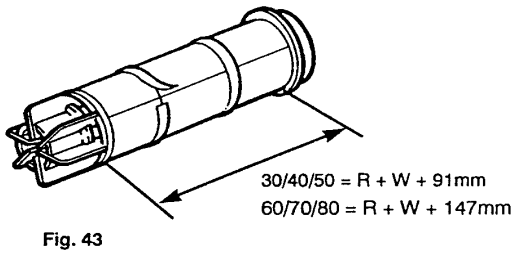

Fig. 43
8. Using the tape provided seal the joints of the three sections of the air duct, ensuring an overlap of at least 30mm (1 3/16 in) at each joint (Fig. 43).